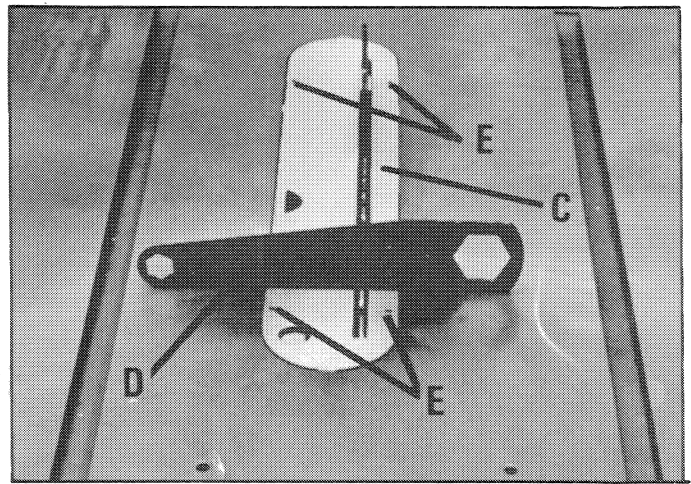

Fig. 27
3. Using blade wrench (D) Fig. 27, check to see if table insert (C) is level with table, as shown. If an adjustment is necessary, tighten or loosen the four screws (E) until the insert is level with the table.